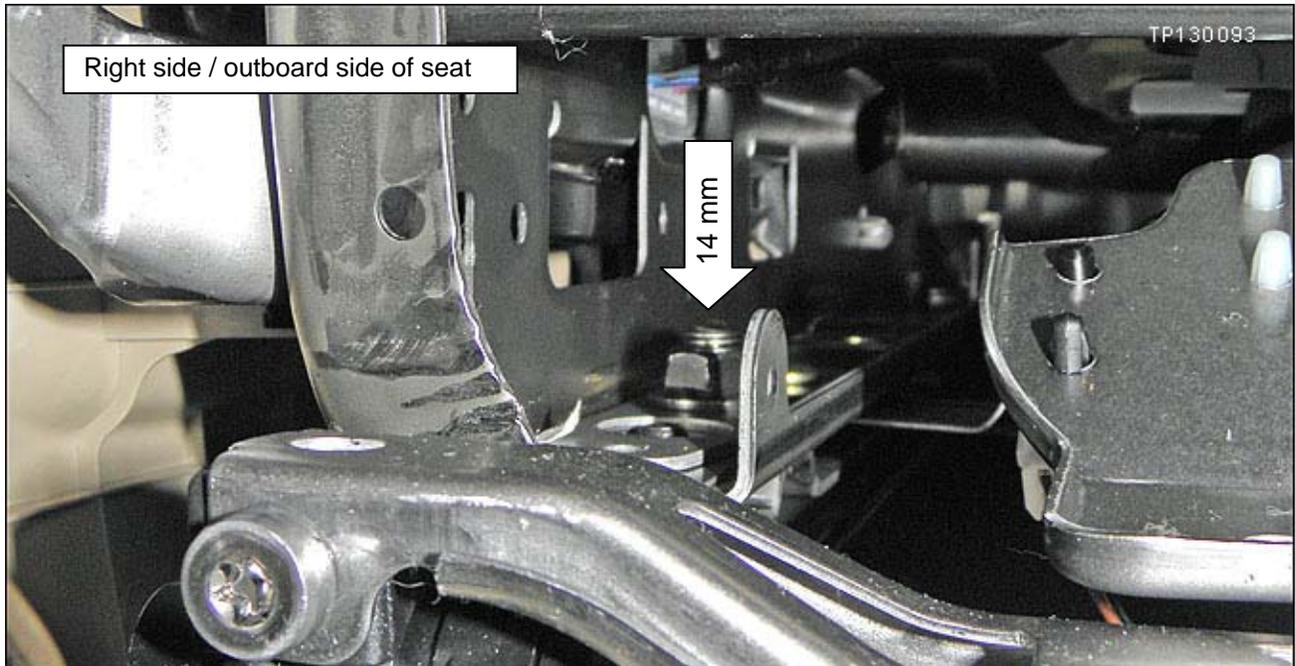

Figure 12
c. Locate and remove the 14 mm nut shown in Figure 12.
- DVD control unit must be removed to access the 14 mm bolt shown in Figure 12.